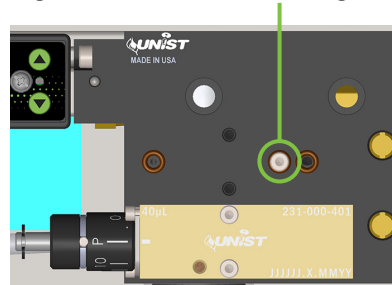

Figure 34: Plug fluid inlet hole
3. The middle hole behind the pump can be temporarily plugged with one of the pump-mounting bolts to minimize fluid leakage. See Figure 34 below for more detail.